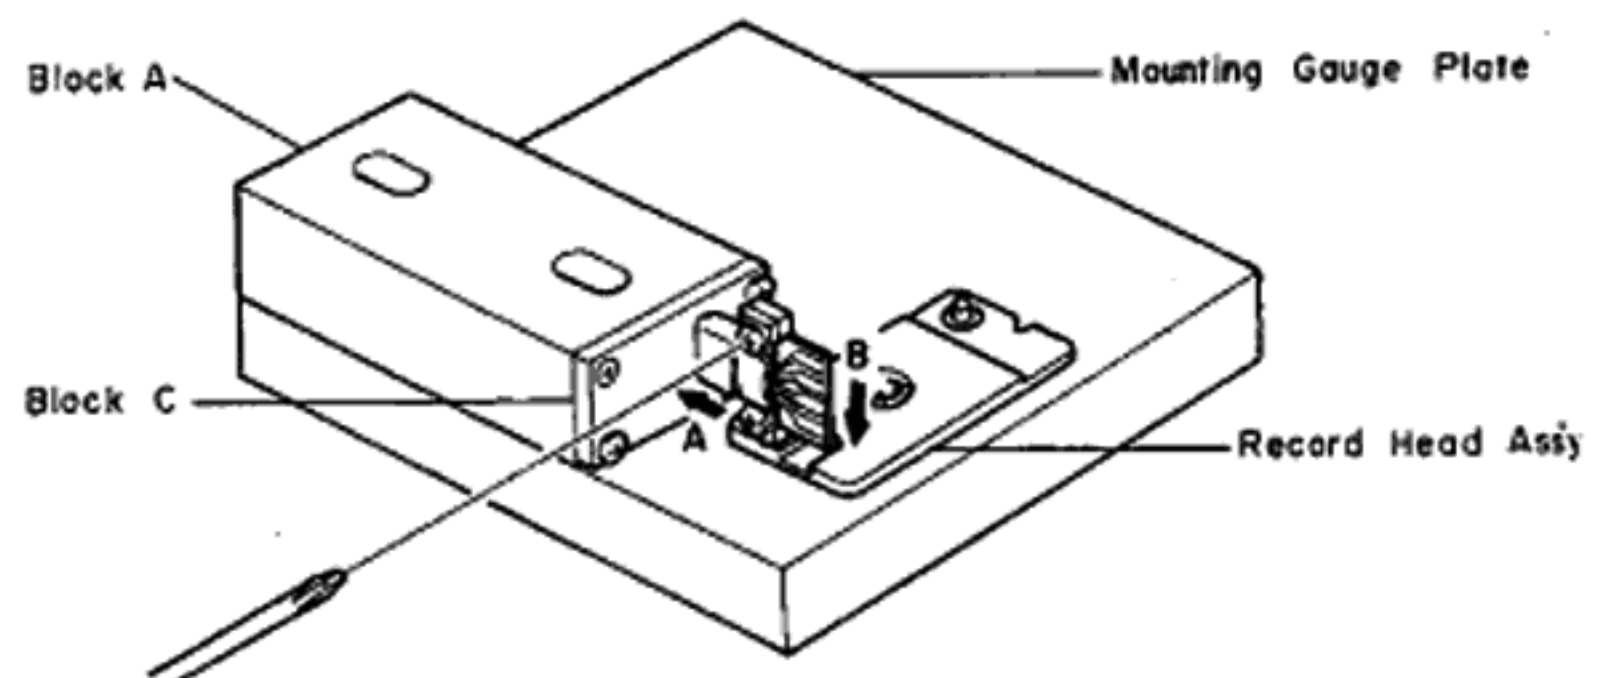

Fig. 4.22
- (5) Remove the Block B from the Mounting Gauge Plate.
- (6) As shown in Fig. 4.22, mount the R-8L record head assembly onto the Mounting Gauge Plate, then check the location of the R-8L record head surface. (If record head contacts to the Block C, loosen 2 pcs. of screws that assemble record head and record head plate, then place the R-8L record head assembly onto the Plate.)
- (7) Remove the R-8L record head assembly from the Mounting Gauge Plate.
- (8) Readjustment of Record Head Mounting Gauge M-9048 (DA09048A)
- (9) Remove the Block B from the Mounting Gauge Plate.
- (10) Mount the R-8L record head assembly onto the Mounting Gauge Plate.
- (11) As shown in Fig. 4.22, loosen 2 pcs. of screws that assemble record head and record head plate. As the location of the Block A is secured by the item (8)-(c), push the record head to the directions A and B, then tighten 2 pcs. of screws.
- (12) Check to insure freedom from gap between the Block C and record head surface, then tighten the 2 pcs. of screws on the record head assembly with lock tight paint.
- (13) Remove the R-8L record head assembly from the Mounting Gauge Plate.
- (14) Assemble the record head assembly to the head mount base assembly.
- (15) Assemble the head mount base assembly to the mechanism assembly.
- (16) Check the record head stroke.